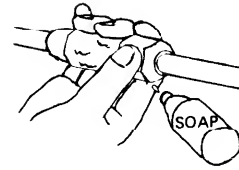

Fig. 36
- Leak test the joints with liquid soap. Fig. 36